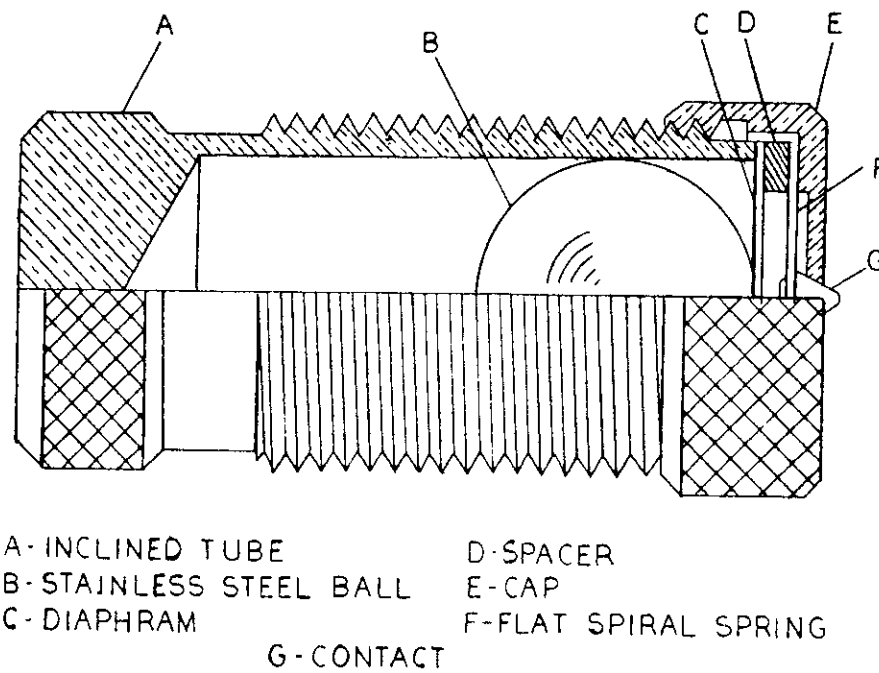

Fig. 2 (K-6077069-4) Contact Assembly for Type CFC11B and 11C Relays
The contacts (Fig. 2) are specially constructed to suppress bouncing. The stationary contact (G) is mounted on a flat spiral spring (F) backed by a thin diaphragm (C). These are both mounted in a slightly inclined tube (A). A stainless steel ball (B) is placed in the tube before the diaphragm is assembled. When the moving contact hits the stationary contact, the energy of the former is imparted to the latter and thence to the ball, which is free to roll up the inclined tube. Thus, the moving contact comes to rest with substantially no rebound or vibration. To change the stationary contact mounting spring, remove the contact barrel and sleeve as a complete unit after loosening the screw at the front of the contact block. Unscrew the cap (E). The contact and its flat spiral mounting spring may then be removed.